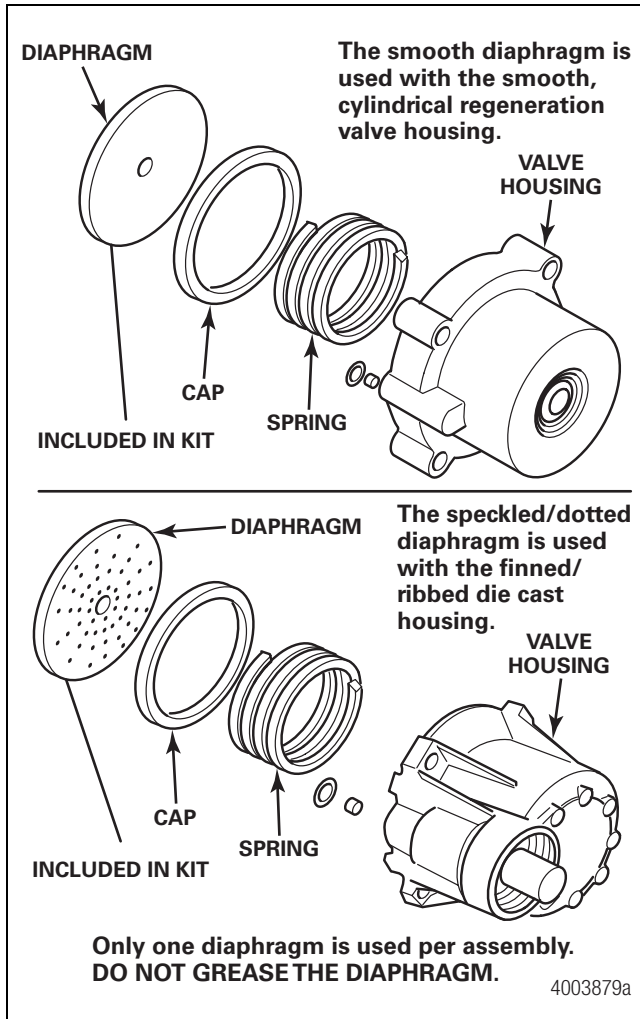

Figure 3.11
1. Review Figure 3.11 to ensure you have all of the parts required to replace the regeneration valve. Use the grease included with the replacement kit to lubricate O-rings and seals.